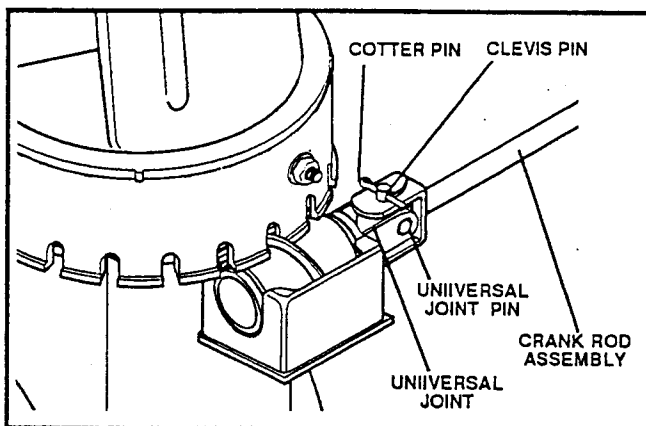

FIG. 5-ASSY
- Carefully remove cotter pin, clevis pin and universal joint pin from yoke end of crank rod assembly as shown in FIG. 5-ASSY.
- Place yoke end of crank rod around universal joint, lining up openings. Insert clevis pin through assembly and secure with cotter pin. Spread ends of cotter pin to lock in place. See FIG. 5-ASSY.